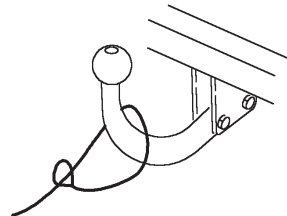

Fig 2
**Fixed ball** - Loop the cable around the neck of the towball. If you fit the cable like this, use a single loop only. (See Figs. 2 and 3).